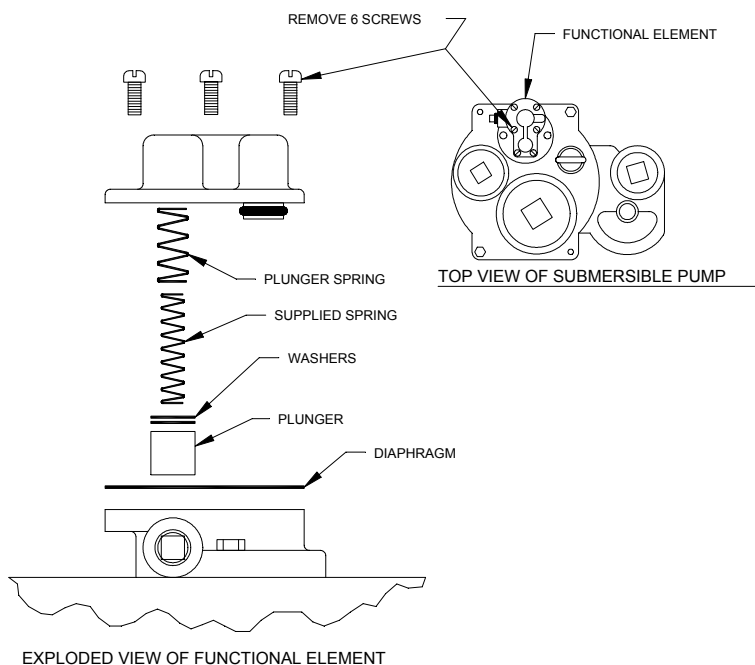

Figure 12 - Functional Element and Relief Valve Springs
- 3) Remove and retain the six- (6) screws located atop the functional element of the Red Jacket STP.
- 5) Remove and replace the plunger spring with the new ones supplied in the kit as shown in Figure 12.